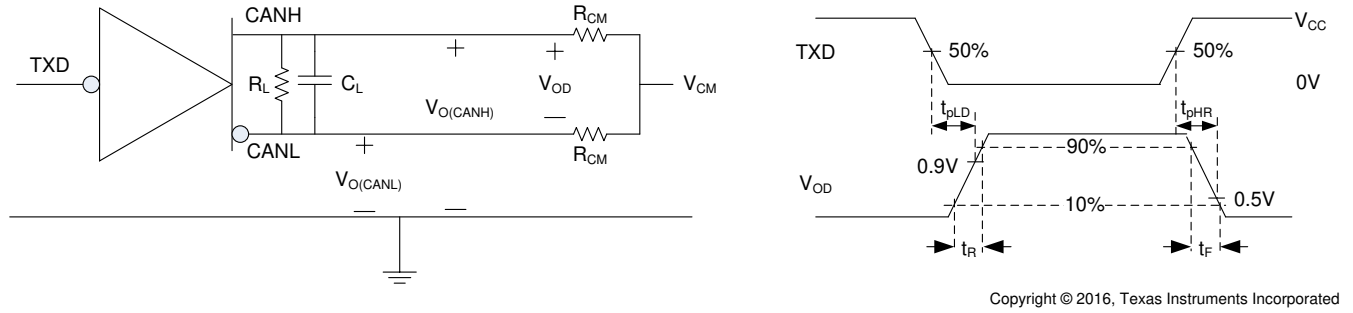

Figure 7-1. Driver Test Circuit and Measurement
| $V_{O(DOM)}$                                  | Bus output voltage (dominant)                                                       | CANH          | See Figure 8-2 and Figure 7-1, TXD = 0 V, S = 0 V, $50\ \Omega \leq R_L \leq 65\ \Omega$ , $C_L = \text{open}$ , $R_{CM} = \text{open}$                                           | 2.75                |                     | 4.5                 | V             |
| $V_{O(REC)}$                                  | Bus output voltage (recessive)                                                      | CANH and CANL | See Figure 8-2 and Figure 7-1, TXD = $V_{CC}$ , $V_{IO} = V_{CC}$ , S = $V_{CC}$ or 0 V (2) , $R_L = \text{open}$ (no load), $R_{CM} = \text{open}$                    | 2                   | $0.5 \times V_{CC}$ | 3                   |               |
| $V_{OD(DOM)}$                                 | Differential output voltage (dominant)                                              | CANH - CANL   | See Figure 8-2 and Figure 7-1, TXD = 0 V, S = 0 V, $45\ \Omega \leq R_L < 50\ \Omega$ , $C_L = \text{open}$ , $R_{CM} = \text{open}$                                              | 1.4                 |                     | 3                   |               |
|                                               |                                                                                     |               | See Figure 8-2 and Figure 7-1, TXD = 0 V, S = 0 V, $50\ \Omega \leq R_L \leq 65\ \Omega$ , $C_L = \text{open}$ , $R_{CM} = \text{open}$                                           | 1.5                 |                     | 3                   |               |
|                                               |                                                                                     |               | See Figure 8-2 and Figure 7-1, TXD = 0 V, S = 0 V, $R_L = 2240\ \Omega$ , $C_L = \text{open}$ , $R_{CM} = \text{open}$                                                            | 1.5                 |                     | 5                   |               |
| $V_{OD(REC)}$                                 | Differential output voltage (recessive)                                             | CANH - CANL   | See Figure 8-2 and Figure 7-1, TXD = $V_{CC}$ , S = 0 V, $R_L = 60\ \Omega$ , $C_L = \text{open}$ , $R_{CM} = \text{open}$                                                        | -120                |                     | 12                  | mV            |
|                                               |                                                                                     |               | See Figure 8-2 and Figure 7-1, TXD = $V_{CC}$ , S = 0 V, $R_L = \text{open}$ (no load), $C_L = \text{open}$ , $R_{CM} = \text{open}$                                              | -50                 |                     | 50                  |               |
| $V_{SYM}$                                     | Transient symmetry (dominant or recessive) ( $V_{O(CANH)} + V_{O(CANL)} / V_{CC}$ ) |               | See Figure 7-1 and Figure 9-2, S at 0 V, $R_{term} = 60\ \Omega$ , $C_{split} = 4.7\text{ nF}$ , $C_L = \text{open}$ , $R_{CM} = \text{open}$ , $T_{XD} = 250\text{ kHz}$ , 1 MHz | 0.9                 |                     | 1.1                 | V/V           |
| $V_{SYM\_DC}$                                 | DC Output symmetry (dominant or recessive) ( $V_{CC} - V_{O(CANH)} - V_{O(CANL)}$ ) |               | See Figure 7-1 and Figure 8-2, S = 0 V, $R_L = 60\ \Omega$ , $C_L = \text{open}$ , $R_{CM} = \text{open}$                                                                         | -0.4                |                     | 0.4                 | V             |
| t pHR                   | Propagation delay time, high TXD to driver recessive (dominant to recessive)                | See Figure 7-1, S = 0 V,R L = 60 Ω,C L = 100 pF, R CM = open                                                                            | 75  | ns                 |     |      |